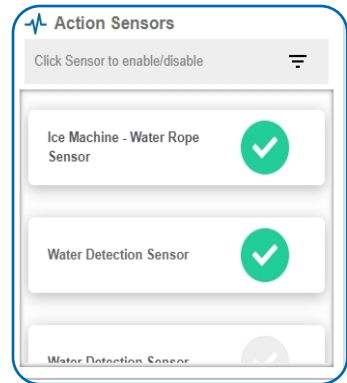

Figure 18
- By default, the sensor(s) will not be assigned to the Action conditions you've just set. To assign a sensor, find the device(s) you want to designate for this Action and select. Selected sensor boxes will turn green when activated. Choose the sensor box again to unassign the sensor from the Action. See Figure 18.